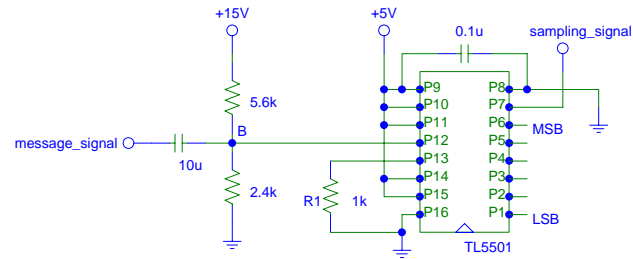

Fig. 2 PCM modulator
1. Assemble the circuit of Fig. 2 **without** connecting node B to pin 12 of the ADC yet. Use FG2 as the sampling signal at pin 7 of the ADC with the parameters of the previous section. Using the multimeter, verify the following voltages with a tolerance of ± 50 mV: at pin 9: 5 V, pin 13: 4 V, node B: 4.5 V. If one of these voltages is not correct troubleshoot your circuit.